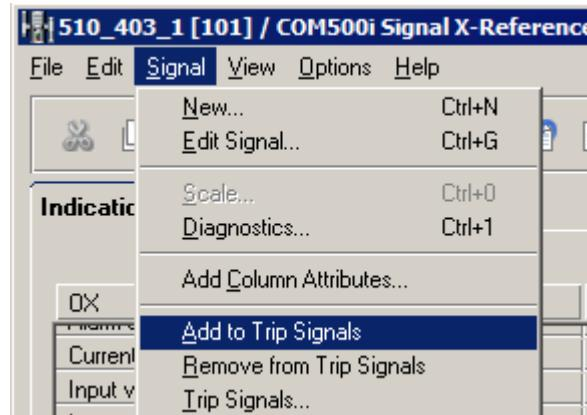

Figure 39: Add new indication signals to Trip Signals list.
3. Select **Add to Trip Signals**, see Figure 39.
3. Select **Remove from Trip Signals**; see Figure 39.